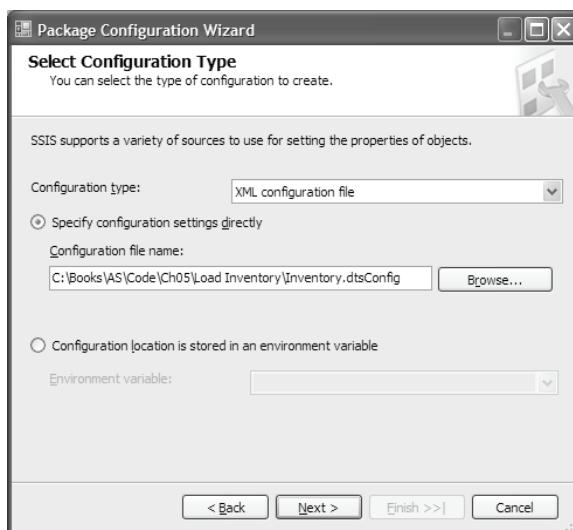

Figure 6.29 Use package configurations to make settings easily configurable.
2. In the Package Configuration Organizer dialog, click the Add button to create a new project configuration. The Package Configuration Wizard is launched. Click Next to advance to the Select Configuration Type step (Figure 6.29).